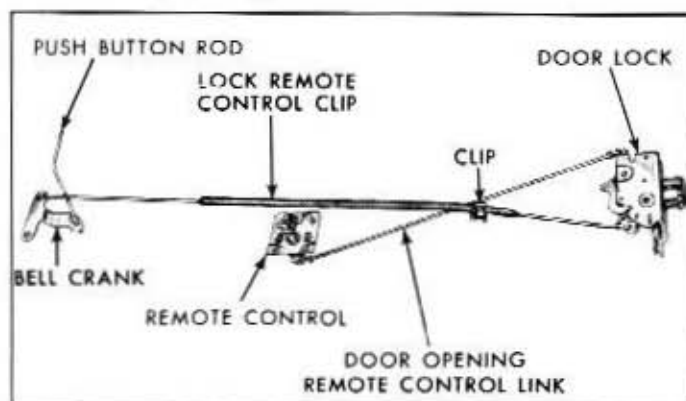

Fig. 13B-4—Rear Door Lock and Remote Control—(60C-8030)
3. Raise the glass, remove the lock retaining screws, then remove the lock, links and bellcrank as an assembly. See figure 13B-4.